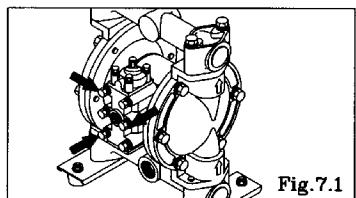

Fig.7.1
- Remove the 6 retainer bolts from the valve body, and remove the valve body. [Fig.7.1]